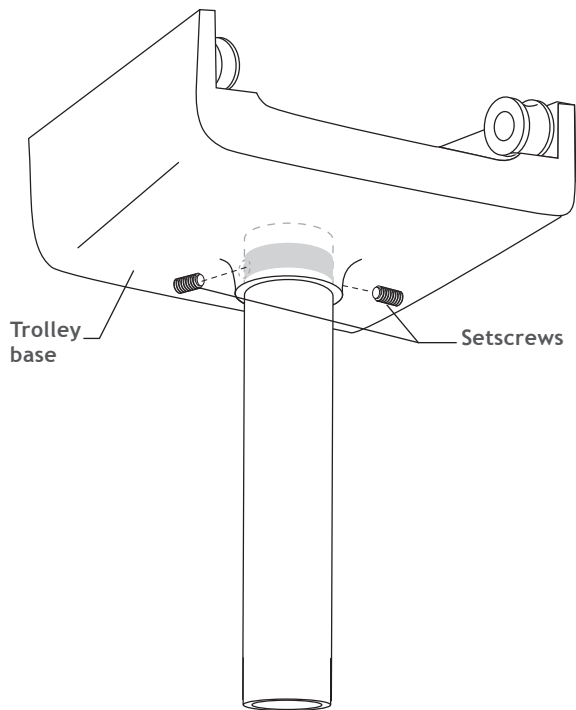

Figure 9. Recommended distances for positioning
4. Secure the post to the trolley by tightening the setscrew (see Figure 9).